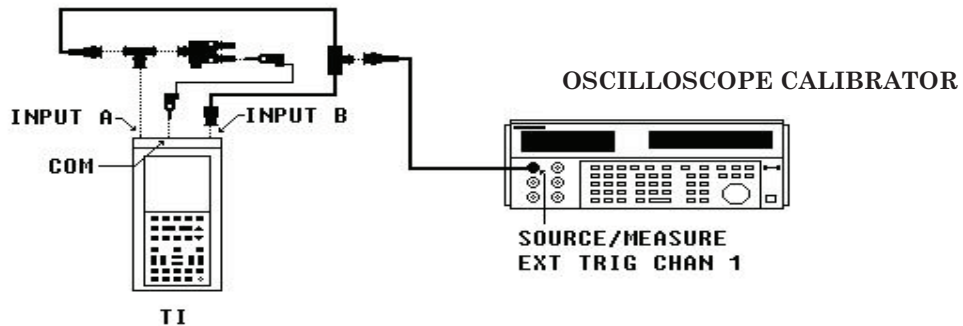

Figure 10. Attenuation and gain.
(11) Toggle **▲** or **▼** to display/highlight (**▼** or **▼** **CAL 5**).
(12) Press **(F5) READY**, then wait till display/highlight **READY** is not highlighted.
(13) Connect equipment as shown in figure 10 below: